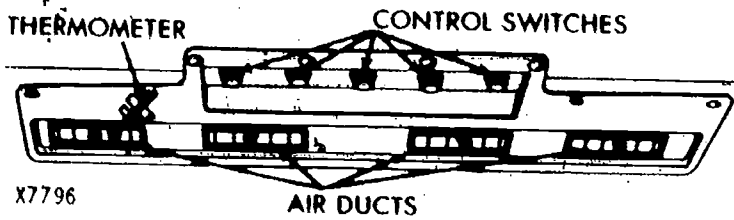

Fig. 60 — Place Thermometer In Air Duct
2. Place thermometer in blower air duct with blower switch at HIGH (Fig. 60).